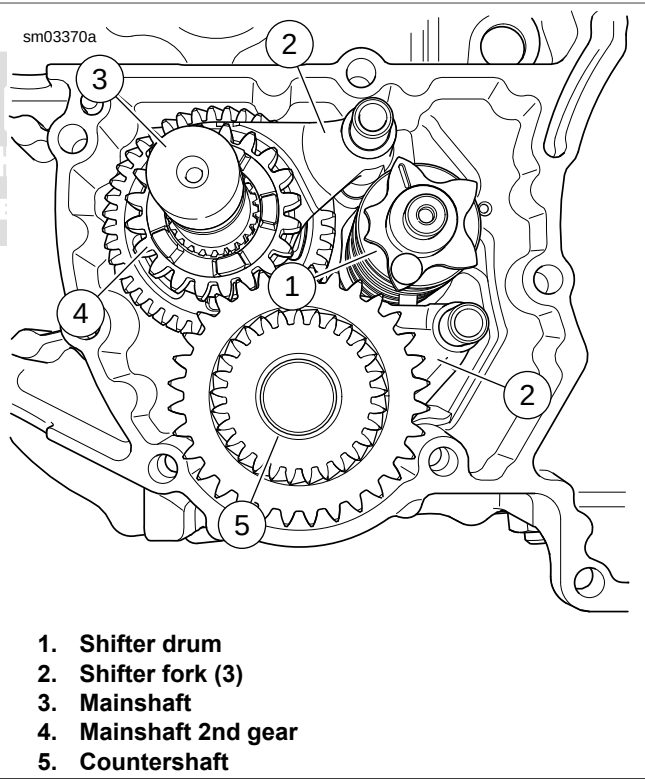

Figure 5-57. Transmission Assembly
2. See Figure 5-57. Remove shifter drum (1) and shifter forks (2). Mark each shifter fork as it is removed, so it can be reinstalled in the same location.